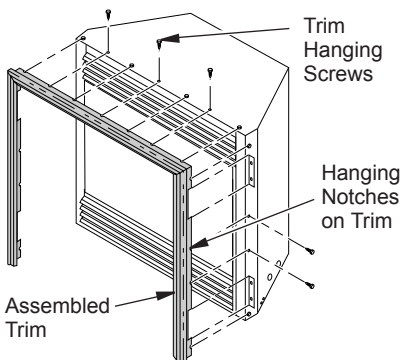

Figure 7 - Attaching Perimeter Trim to Fireplace
8. Tighten trim hanging screws (#10 x 6.25 shoulder) into holes in cabinets. Place the assembled trim onto fireplace cabinet. Align hanging notches on trim with hanging screws on side of fireplace (see Figure 7). Push trim firmly into place, sliding hanging notches over hanging screws.
9. Install trim after final finishing and/or painting of wall (see Figure 7, page 9).